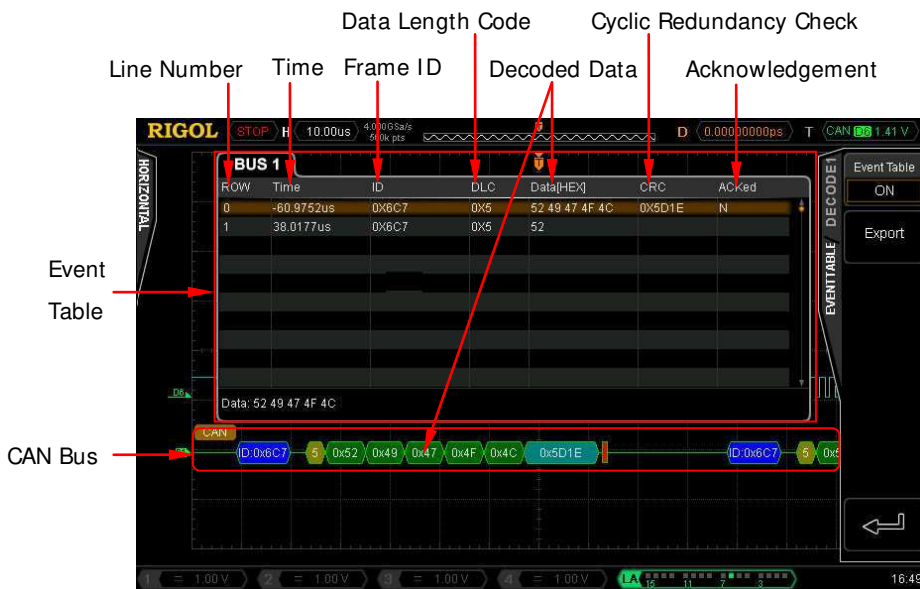

Figure 8-6 CAN Decoding
Press **BusStatus** to turn the Decode1 bus display on or off. You can also press **Decode1** to switch the current on/off status of the Decode1 display. When the bus display is turned on, the interface is as shown in Figure 8-6.
- 1) Press **Event Table** to turn on or off the event table. When the event table is turned on, the interface is as shown in Figure 8-6.